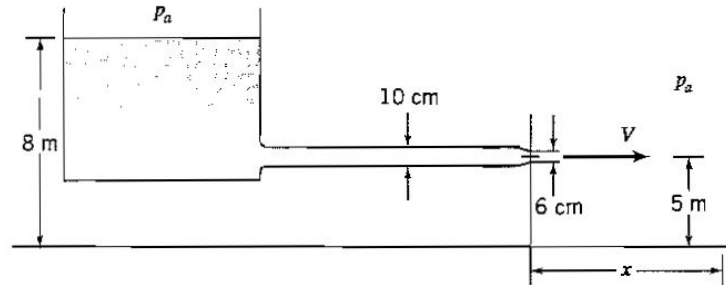

Figure P4.34:
4.34 Water flows from a large open reservoir and discharges into air at atmospheric pressure through a circular, horizontal pipe fitted with a nozzle, as shown in Figure P4.34. Subsequently, it strikes the ground a distance x downstream from the nozzle. Neglecting losses, find